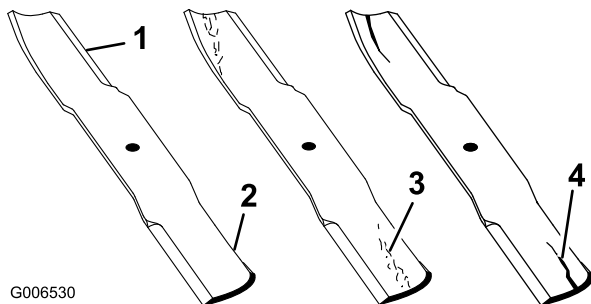

Figure 78
1. Inspect the cutting edges (Figure 78). If the edges are not sharp or have nicks, remove and sharpen the blades. Refer to Sharpening the Blades.
2. Inspect the blades, especially the curved area. If you notice any cracks, wear, or a slot forming in this area immediately install a new blades (Figure 78).